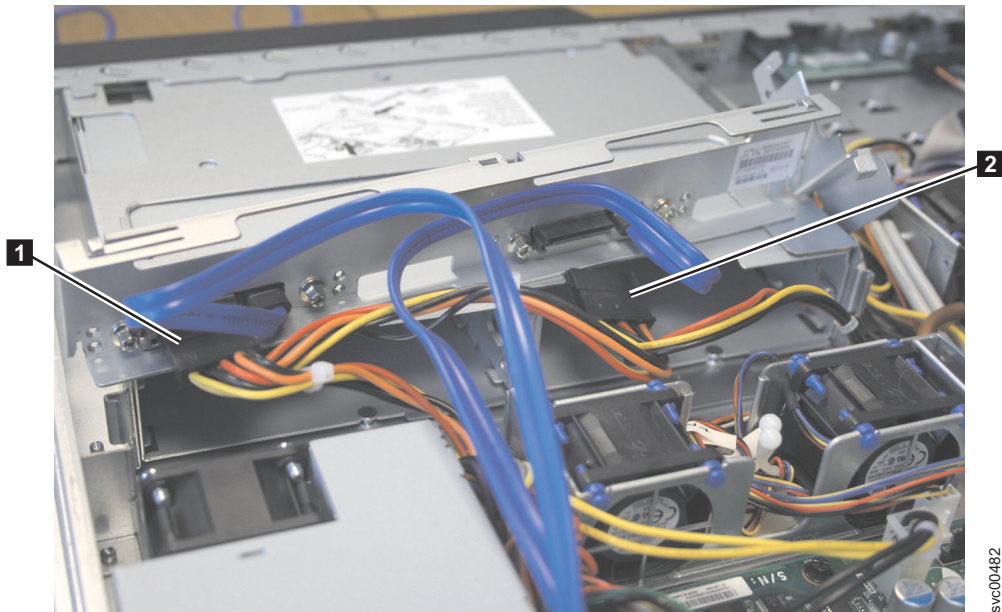

Figure 194. SAN Volume Controller 2145-8A4 power supply connectors
9. Remove power connectors P1 **1** and P6 **2** , as shown in Figure 194.